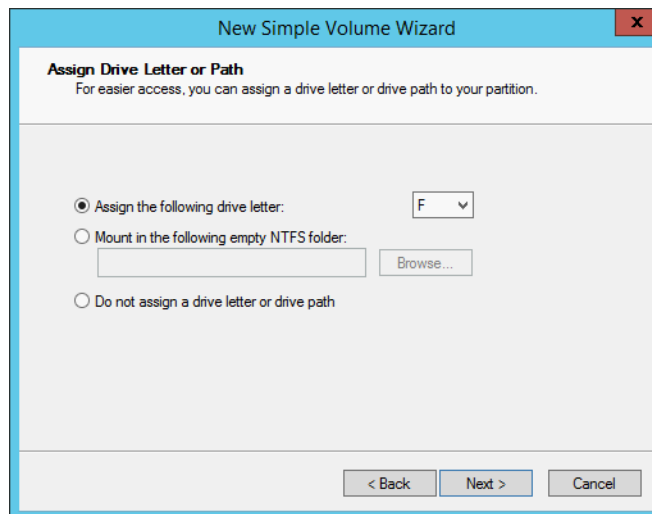

Figure 5-53 Assign drive letter or path
6. You also must assign a drive letter or path for a new volume, as shown in Figure 5-53 on page 194.